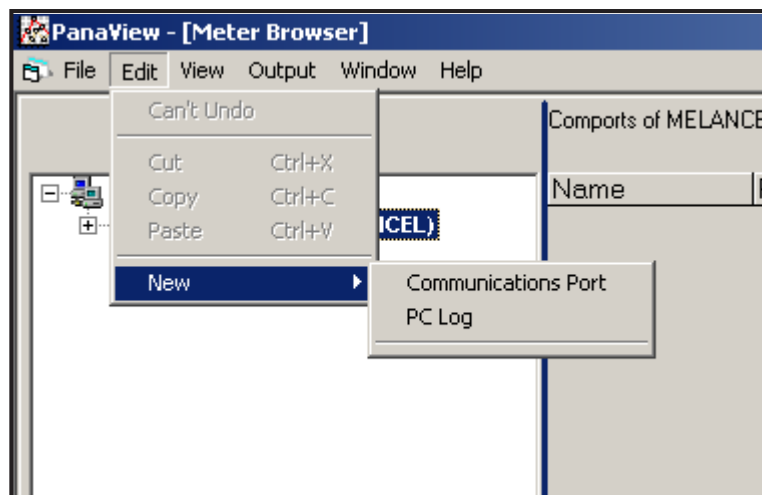

Figure 32: The Edit Menu
4. Click on the *New* menu option to select it, and a submenu opens with two choices on it (see Figure 32).